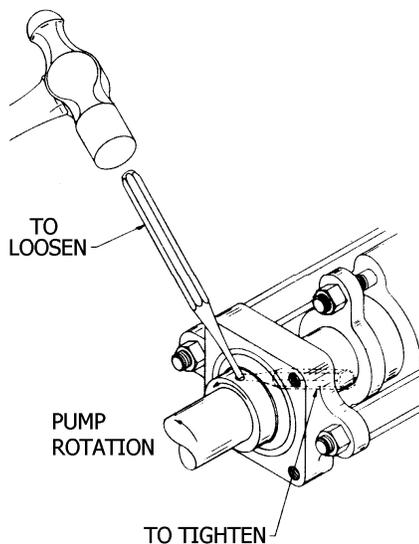

Figure 11 – Shaft Support Bearing Lock Collar
- Place the bearing flange (106) on the studs and tighten the locknuts (106A).
- Lock the collar to the shaft with a punch in the same direction as the shaft rotation. See Fig. 11.
- If the shaft does not turn freely, loosen the lock collar and make sure the bearing is firmly seated in the bearing flange (106). Re-tighten the lock collar.